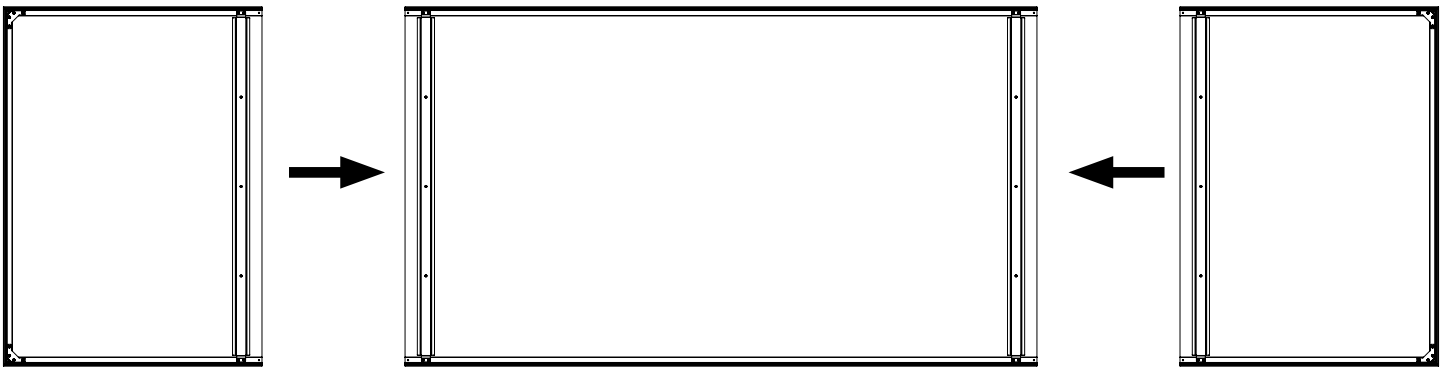
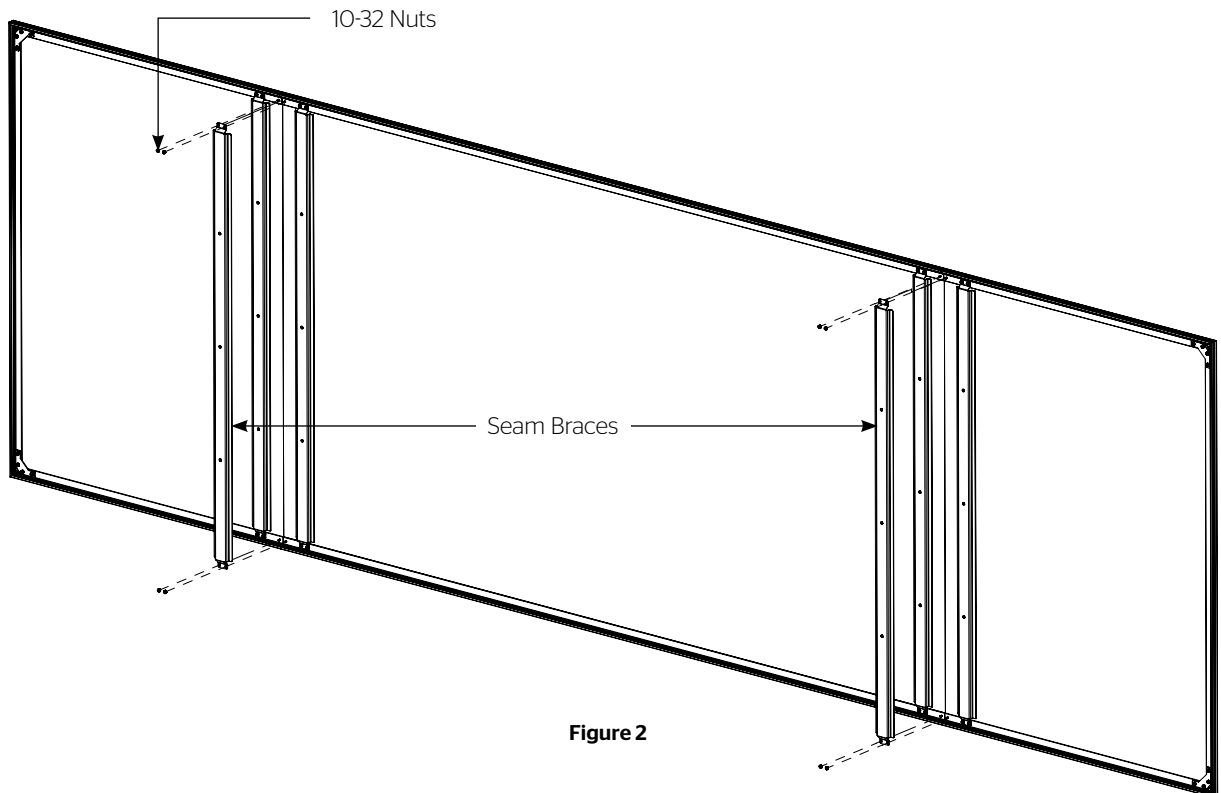

Figure 1
Figure 2
2. Slide all three panels together, aligning the both the top and bottom frames (Figure 1).
3. Find (1) seam brace and remove the release liner from both strips of adhesive tape.
5. Use $\frac{3}{8}$ " open wrench or socket driver and (4) 10-32 nuts to attach seam brace onto the studs on the top and bottom of screen frame at the panel seam. Tighten all four nuts once attached to the frame (Figure 2).